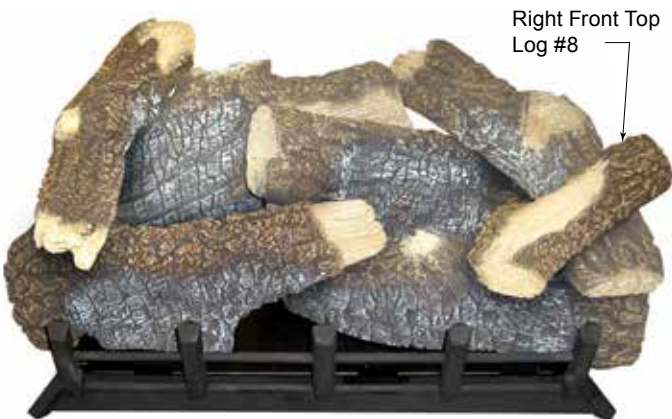

Figure 39
- Place small right front top log (#8) on log #7 and log #2 using locating grooves on the bottom of log #8 and locating blocks on log #7 and log #2. *Figure 39*